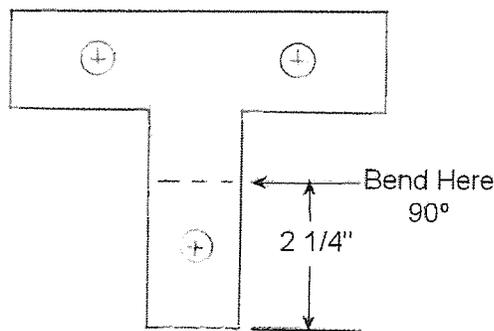
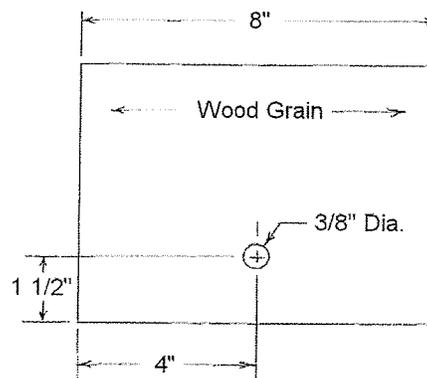

Figure 3 – Simpson T-Strap Tie
Figure 4 – Stringer Support Pad
**Sill Fabrication** - Since most boardwalk locations are remote it helps to fabricate the sill assembly offsite where power tools are readily available. Lumber sills using 4"x4"/6"x6" stock and plastic pipe sills use a bent Simpson "T" (Figure 3) to secure the stringers to the sills. Plastic pipe sills also require a stringer support pad (Figure 4) to provide a flat support surface on the pipe.
**Sill Placement** – After the first sill is in place and level then the stringers can be placed across the span to the second sill and with the use of a carpenter level determine if the second sill has to be dug in more or shimmed up. Shimming is accomplished with an assortment of spacers made from 5/4", 1", and 2" PT boards as depicted in Figure 4 that are placed between the "T" straps and the sill. Once the second sill is in place and leveled then the stringers can be bolted to the "T" straps. The use of bolts to secure the joint not only strengthens it but also facilitates removal of the boardwalk sections if damaged or needing relocation. Maintain a 3/8" gap between stringers at the junction point to allow for vertical flexing in case the ground is (or becomes) spongy. This process is repeated until the last sill is reached. If the wet area experiences high flooding, anchor the end sills and an occasional one in between by using re-bar through the ends of the sills to prevent the boardwalk from shifting off its footprint. The top of the re-bar should just clear the underside of the deck plank. The clearance holes in the sills must be slightly oversize so the boardwalk can freely ride up on the re-bar. When using steel pipe for stringer support the path of the boardwalk must be probed at stringer-length intervals through the soft soil to the firm sub-soil with a thin, firm rod such as fiberglass wands or 3/8" dia. re-bar. This measurement is needed to calculate the required pipe lengths to support the boardwalk.